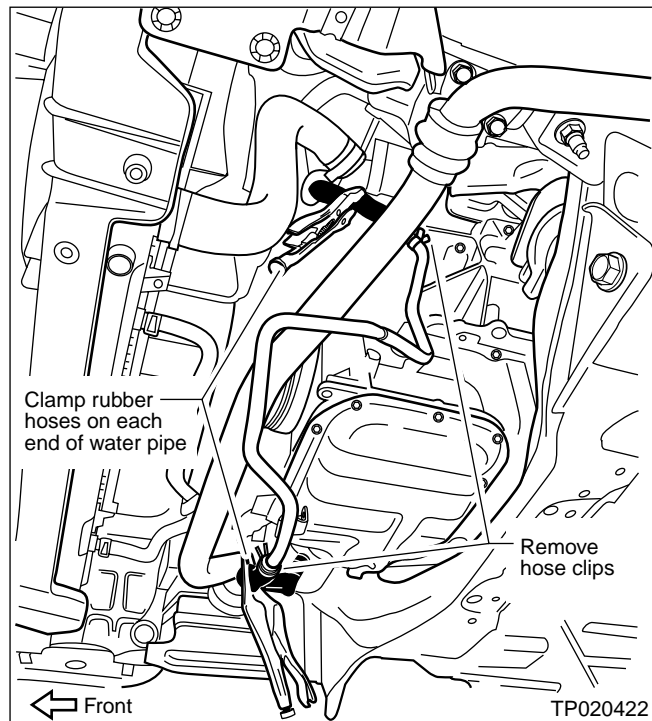

Figure 1
5. Clamp the rubber water hoses on each end of the water pipe with pinch-off pliers or other suitable tools (see Figure 1).
Remove the hose clips (see Figure 1).